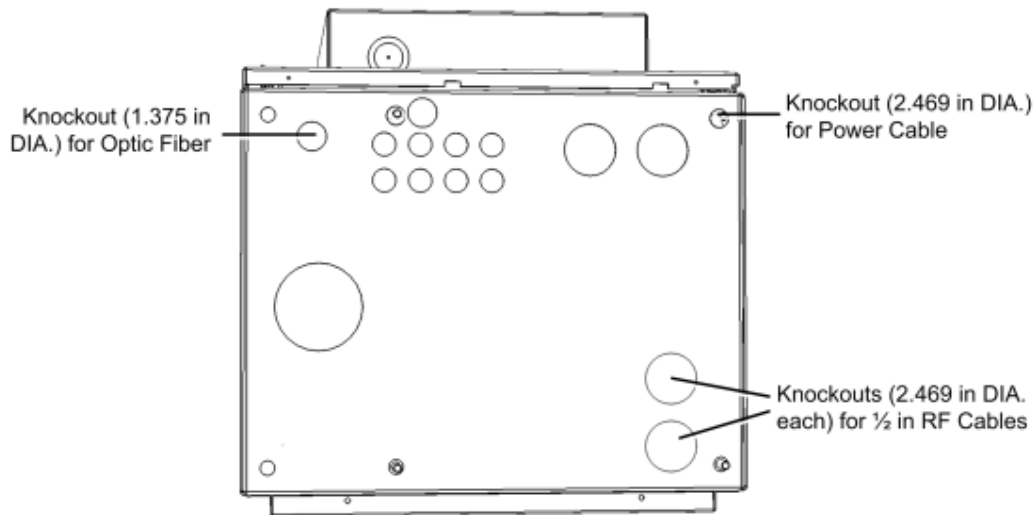
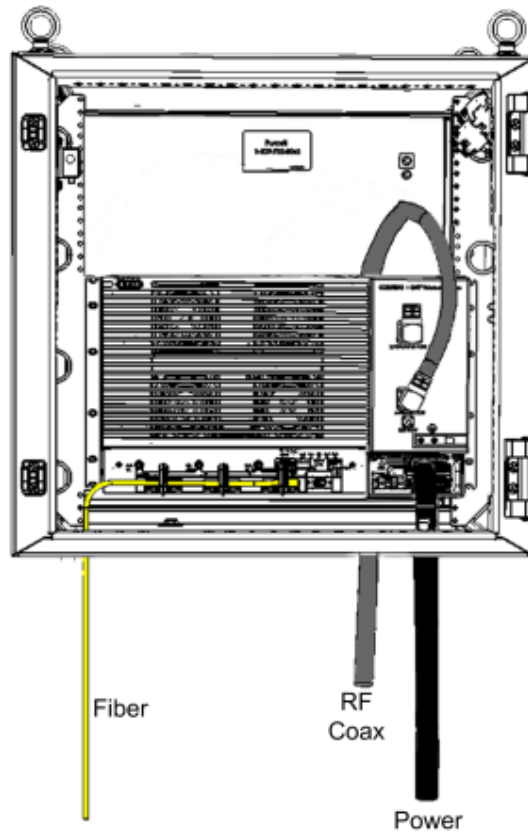

Figure 4-6. Required Knockouts Positions
Figure 4-11. Example of Routed Connection Cables
- Recommended - Flexible cable conduits for routing connections cables through cabinet knockouts; refer to Figure 4-6 for relevant knockouts; Following are recommended Heyco part numbers for flexible conduits:
7. Connect RF antenna coax - (for both 4.3-10 Type “ANTENNA PORT” and “2.5GHz INPUT PORT”) route coax cable with 90° right angle connector through its’ designated knockout (see Figure 4-6) behind and above the MRU chassis and connect to the corresponding RF port. Refer to Figure 4-11.
8. Route optic fiber from ICU and power cable through designated knockouts (see Figure 4-6) and connect according to instructions in section 4.4. Refer to Figure 4-11.